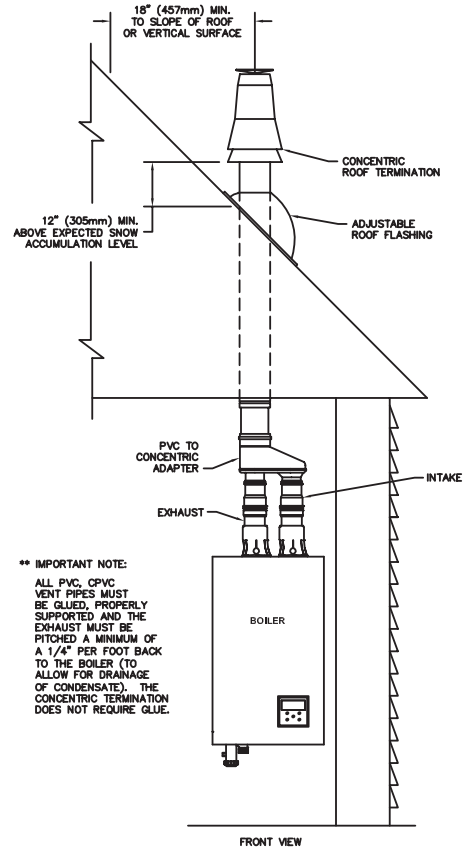

Figure 3.10: Concentric Vertical Vent Installation
- Figure 3.10 shows an approved vertical vent configuration using the optional concentric vent termination kit.